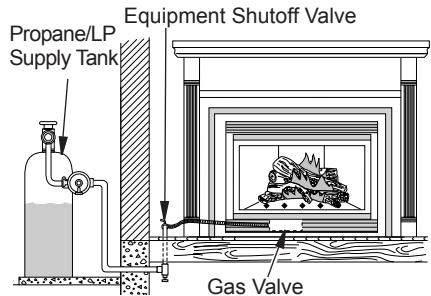
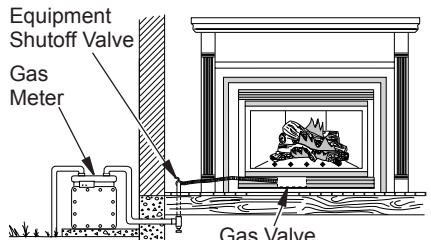

Figure 35 - Checking Gas Joints for Propane/LP Gas Fireplace
Figure 36 - Checking Gas Joints for Natural Gas Fireplace
3. Check all joints from propane/LP supply tank or gas meter to equipment shutoff valve (see Figure 35, for propane/LP or Figure 36, for natural gas). Apply noncorrosive leak detection fluid to all joints. Bubbles forming show a leak. Correct all leaks at once.
4. Check all joints from equipment shutoff valve to gas valve (see Figure 35, page 23, for propane/LP or Figure 36, page 23, for natural gas). Apply noncorrosive leak detection fluid to all joints. Bubbles forming show a leak. Correct all leaks at once.